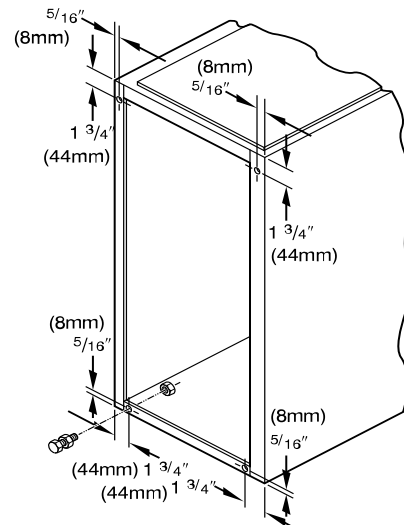

Fig. 10 – Leveling Legs
In upflow position with side return inlet(s), leveling legs may be used (see Fig. 10). Install field-supplied, 5/16 x 1-1/2 in. (8 x 38 mm) (max) corrosion-resistant machine bolts, washers and nuts.
- Position furnace on its back. Locate and drill a hole in each bottom corner of furnace (see Fig. 10).